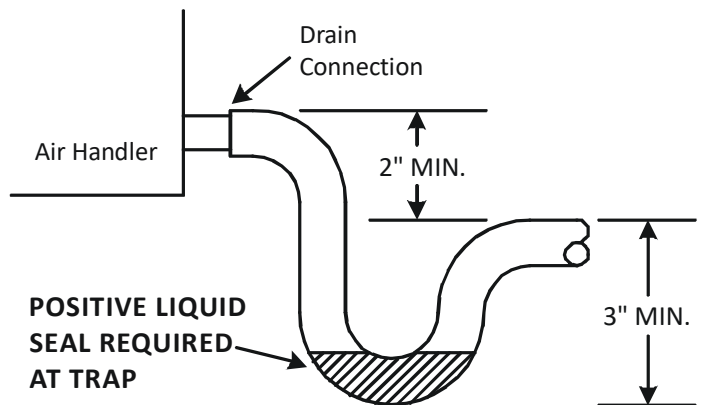

FIGURE 15
- **SOME INSTALLATION MAY REQUIRE A FIELD FABRICATED OR FIELD SUPPLIED SECONDARY DRAIN PAN UNDER THE COIL CABINET ENCLOSURE. THE INSTALLATION MUST INCLUDE A "P" STYLE TRAP THAT IS LOCATED AS CLOSE AS IS PRACTICAL TO THE EVAPORATOR COIL SEE FIGURE 15 FOR DETAILS OF A TYPICAL CONDENSATE LINE "P" TRAP.**